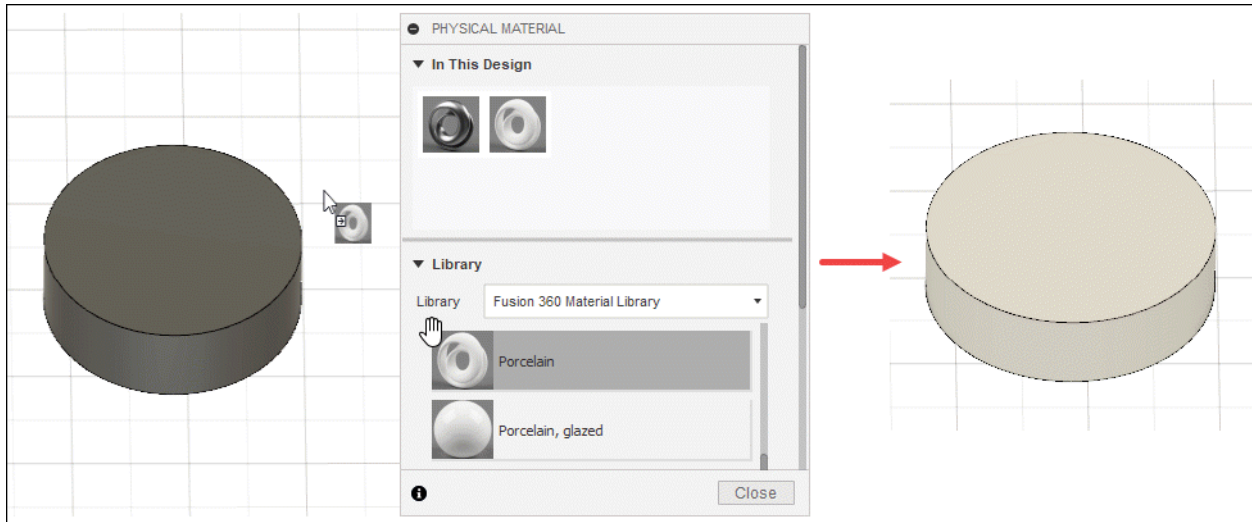

Figure-70. Applying physical material on the body
- Now, drag the specific material from the **Library** section and drop it to the body or component. The physical material of body/component will be changed; refer to Figure-70.